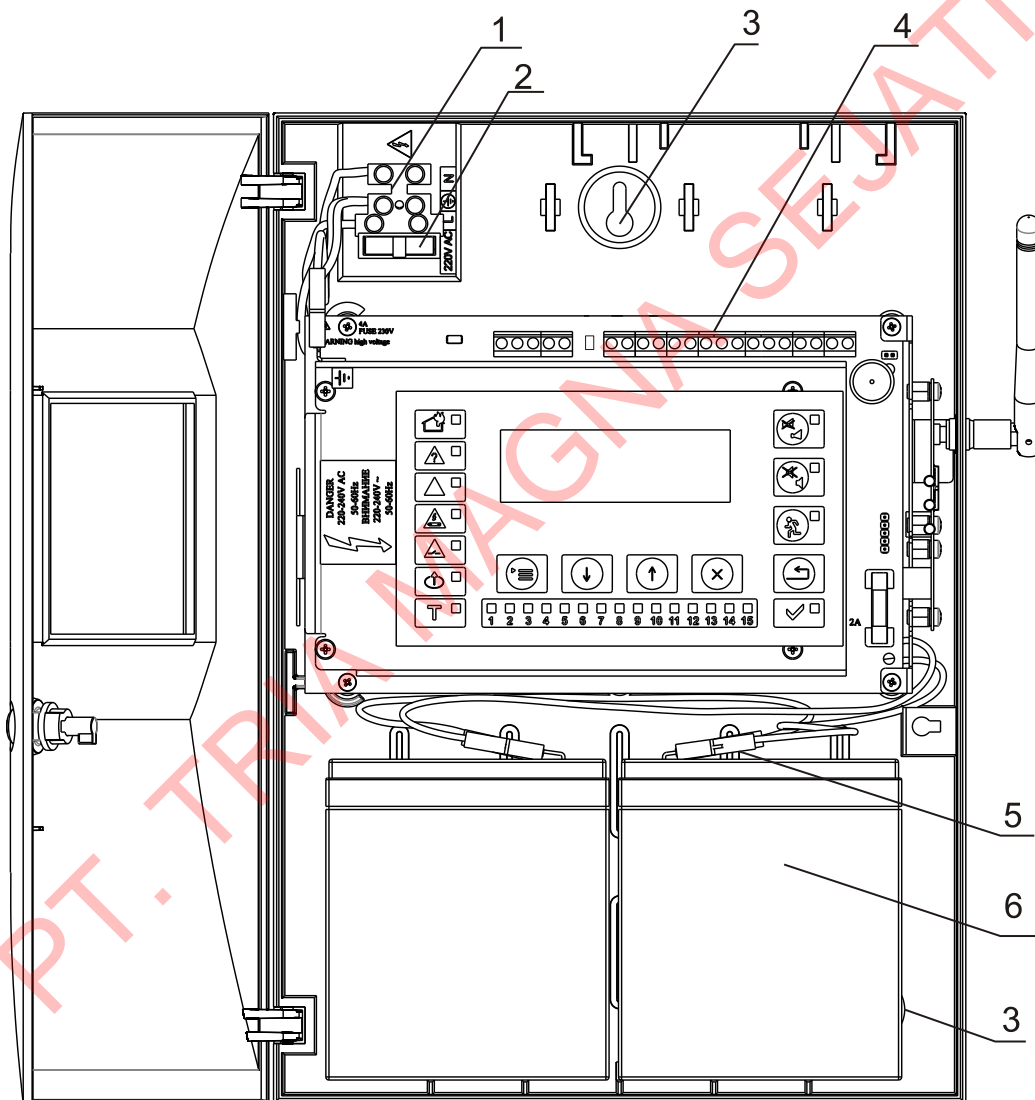

Fig.2
- fix the Control Panel to the dowels through the three openings of the box (pos.3, fig.2).
All accessions are made by means of terminals, mounted on the printed circuit board (pos.4, fig.2). Please note that the consumption of the controllable output should not exceed, 1,0 A in any fire panel mode.
Connect power cable to the terminal (pos.1, fig.2) with fuse (pos.2, fig.2), observing the following location: